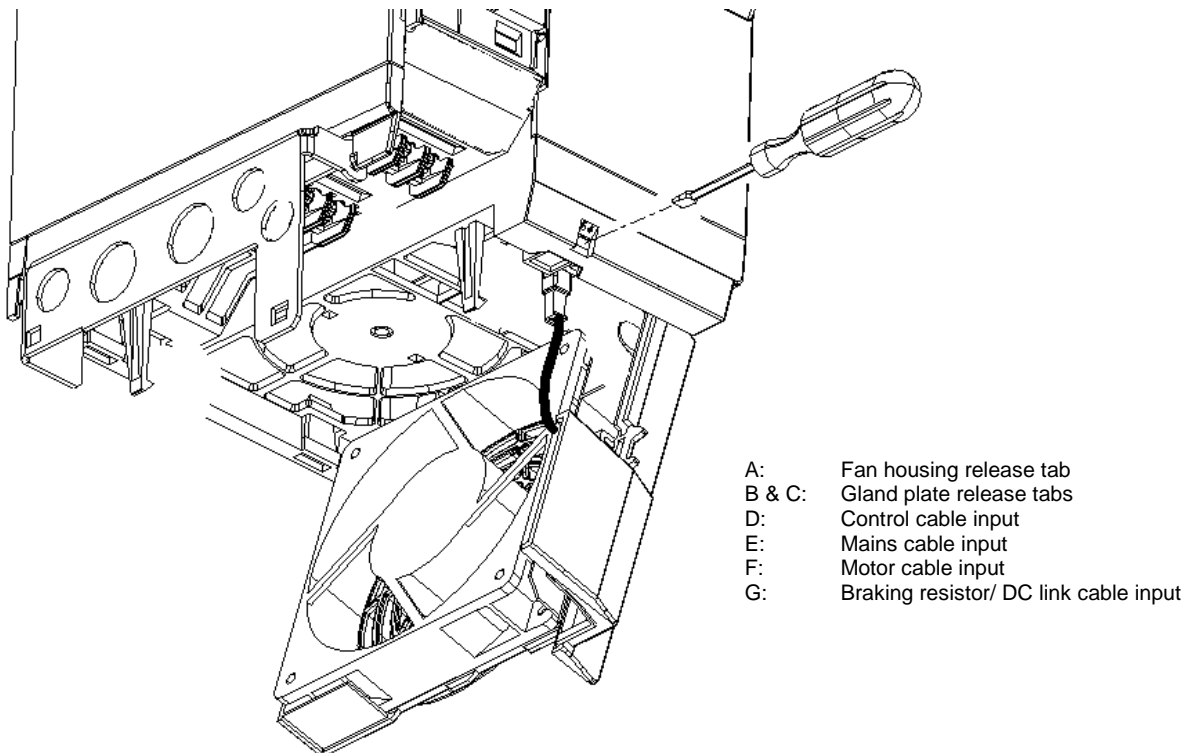

Figure 5: Power Connections Access Diagram - Frame Size C
- *Frame size C:* use a small bladed screwdriver (as shown in Figure 5) to release the gland plate and the fan housing; allow them both to swing down to hang beneath the inverter.
A small bladed screwdriver, max. 3.5 mm will be required to operate the control terminal WAGO cable clamp connectors as shown in Figure 5.